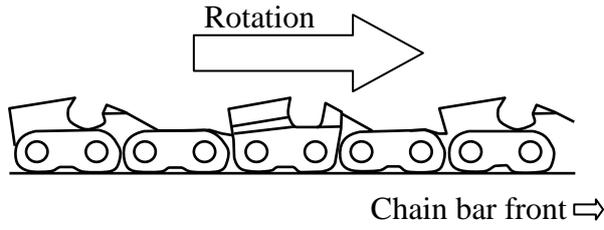

Figure 4
- Check to ensure that chain is running in the correct direction (Fig.4)
Check to ensure that chain is running in the correct direction (Fig.4)